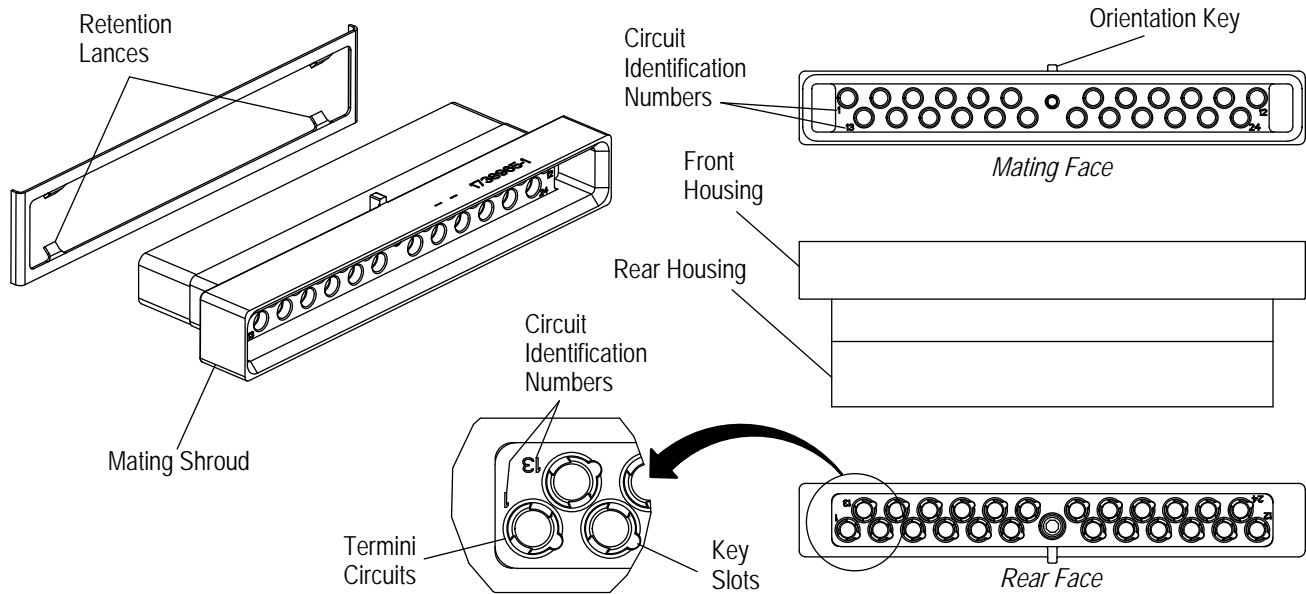

Figure 2
A. Backplane Connector Kit (Figure 2)